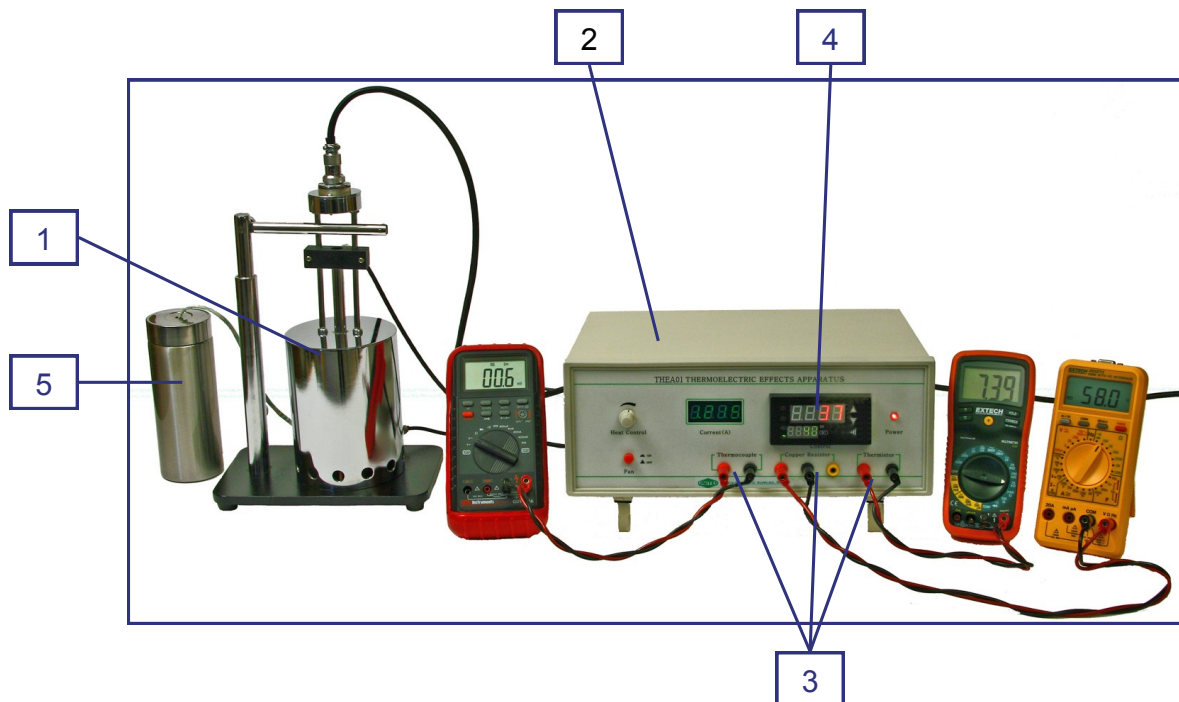
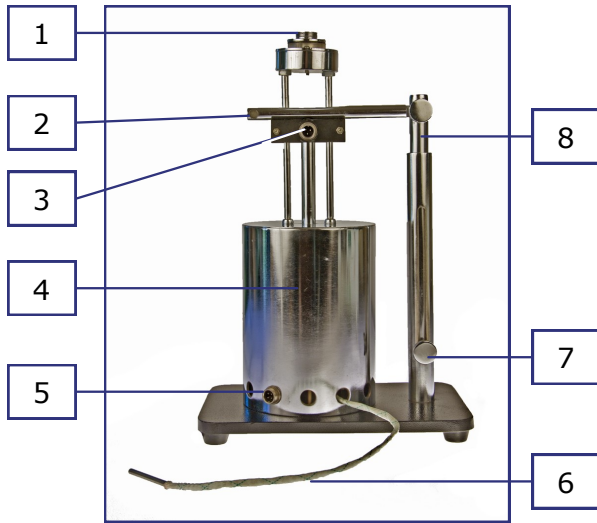
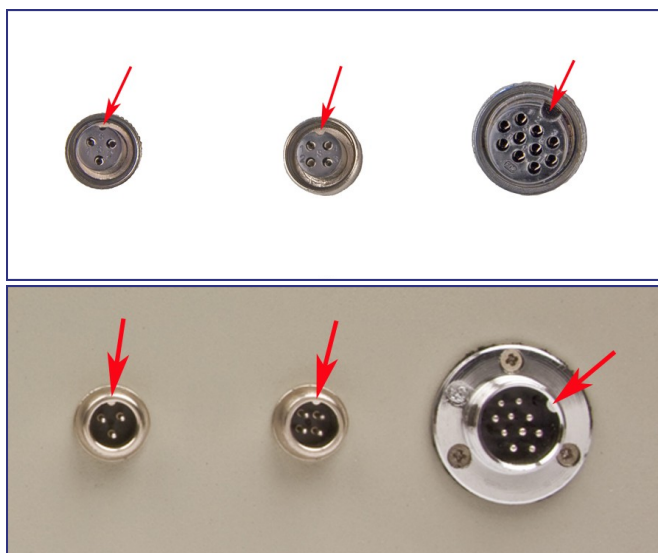

Figure 1
Figure 2
Figure 7
The apparatus consists of an oven (1, *Figure 1*) containing a cooling fan, a massive metal block with an electric heater, the three samples, and the control system sensor, and a control unit (2) that provides the heating current, connectors to the three sample devices (3) and the digital temperature controller (4). The oven and the control unit are connected by three multi-pole cables.
The sample devices are a thermocouple, a three-pole metal resistor, and a thermistor. An insulated flask (5) is provided to hold ice water for the cold junction of the thermocouple. The signals from the three sample devices can be read by any suitable measuring device provided by the user (digital multimeters are shown in *Figure 1* as an example.)
The heating block with the samples is supported from the top cover of the oven on two thin struts. The assembly can be raised out of the oven on a telescoping support rod. *Figures 2 and 3* identify the oven and sample heating block components:
The Oven—*Figure 2* (rear view)
- Loosen the horizontal support rod clamp (2, *Figure 2*) and the support rod locking screw (7, *Figure 2*). Carefully seat the oven cover on the top of the oven wall with the black crosspiece on the support rods flush with the underside of the horizontal support rod. Re-tighten the two screws.
- Connect the three supplied multi-pole cables to the appropriate sockets on the oven unit (1, 3, & 5, *Figure 2*), making sure that the grooves on the connectors align with the ridges on the sockets (see example, *Figure 7*):
- Fill the insulated flask (5, *Figure 1*) with a mixture of crushed ice and water, position it close to the oven, and insert the cold junction of the thermocouple (6, *Figure 2*) through the hole in the flask lid and into the ice water. Make sure the metal-encapsulated junction is fully immersed. The flask will retain ice water for up to approximately three hours, depending on the ambient temperature of the lab.